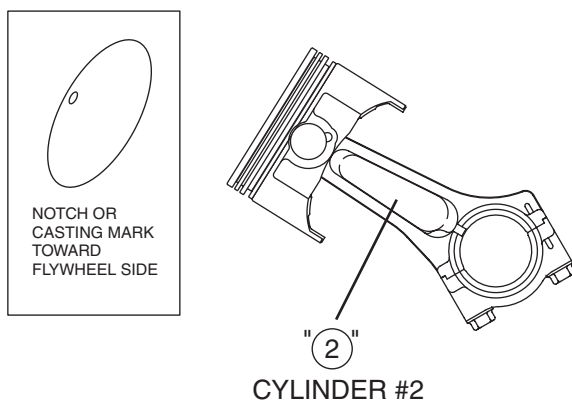

Figure 12-9. Assemble #2 Rod And Piston
- Lubricate parts with engine oil and assemble #2 piston and connecting rod, Figure 12-9.